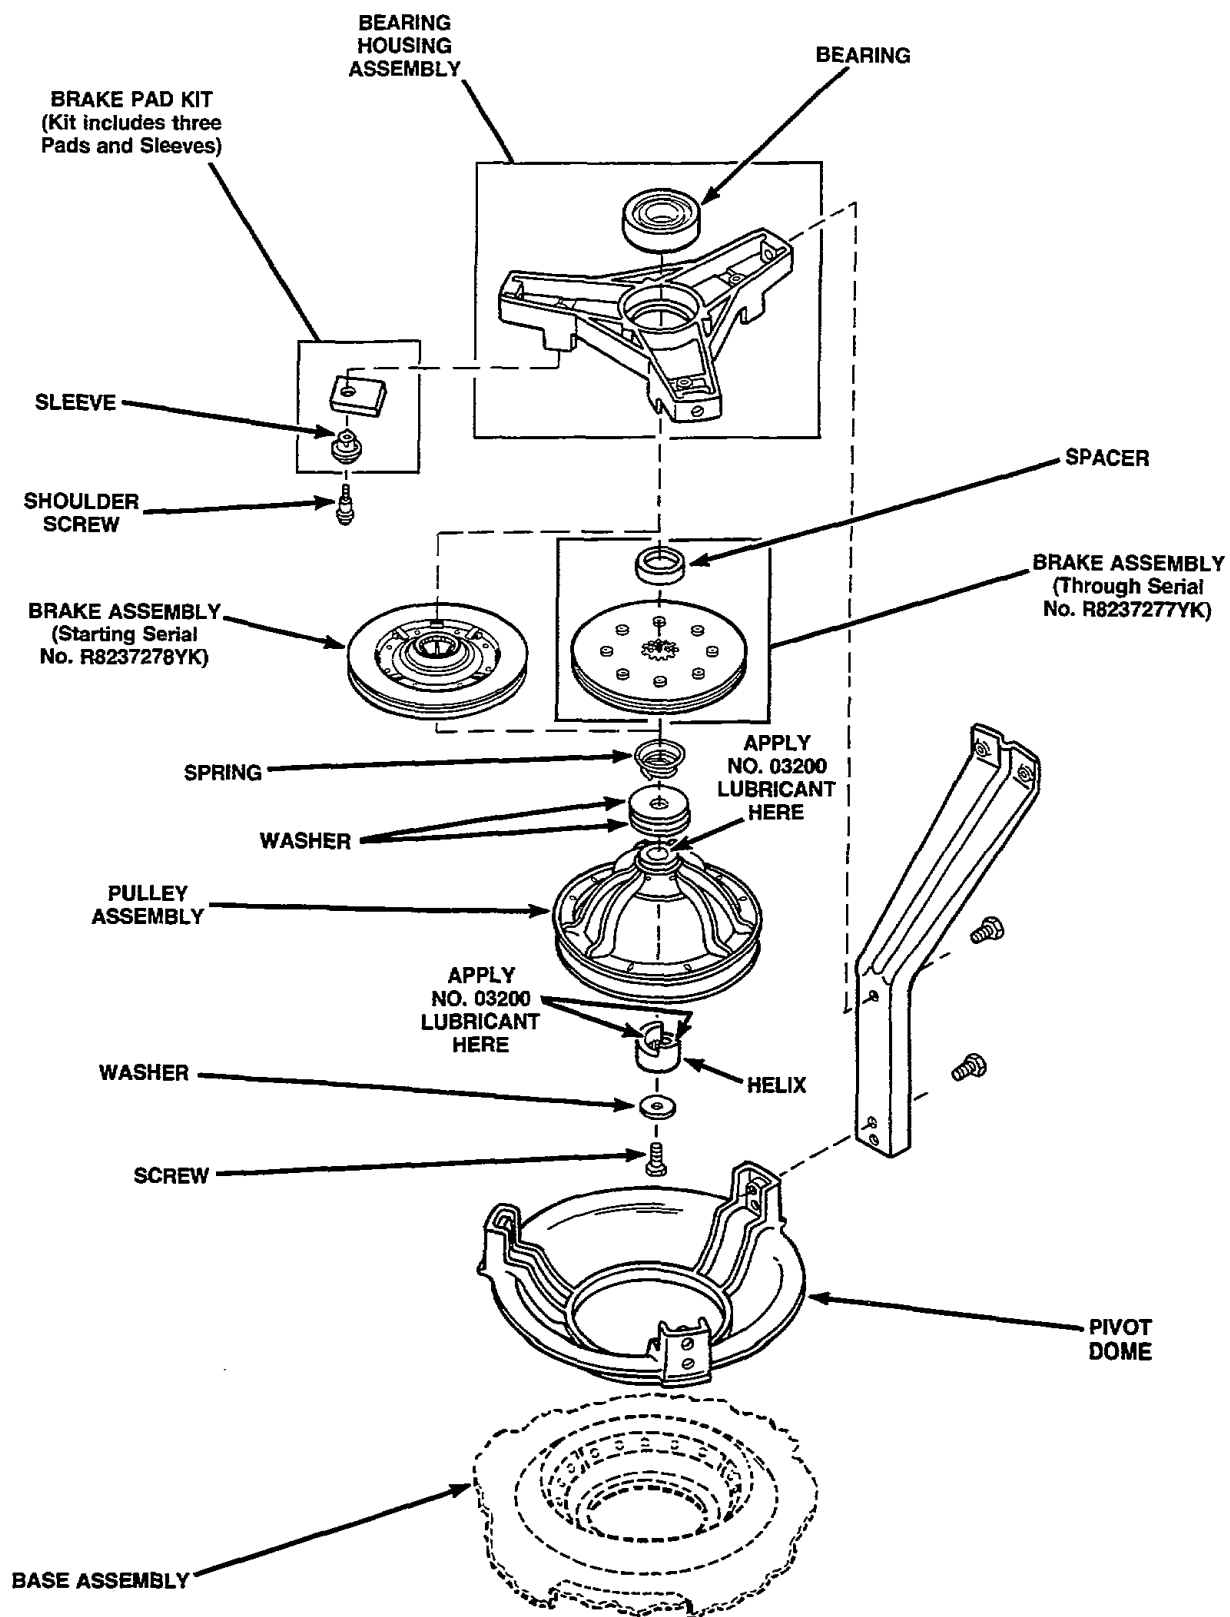

Figure 44
IMPORTANT: The two large flat washers must be in place between spring and drive pulley when reassembling. See *Figure 44* for assembly sequence.
NOTE: When reassembling, place a small amount of No. 03200 Lubricant to top side of drive pulley that will be contacting large flat washers. Lubricate helix ramps with No. 03200 Lubricant. See *Figure 44*.
- b. Using a right angle needle nose pliers, remove spring from around lower transmission tube (located inside brake assembly), *Figure 44*.
- c. Remove three screws holding brake pads, rubber sleeves and brake assembly to lower bearing housing, *Figure 44*, then remove brake assembly, pads and spacer off bottom of transmission assembly.
NOTE: Refer to *Figure 44* for assembly sequence.
- r. Remove three screws and rubber sleeves holding brake pads to lower bearing housing, *Figure 44*.
- t. Remove three screws holding lower bearing housing to tub support legs, *Figure 44*.